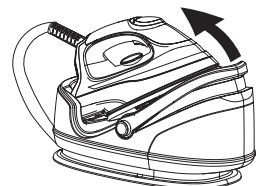

FIG. 10
Step 3 - Lift the handle up until you hear a "pa" sound, this indicates that the handle has been locked in place and you can now safely carry the appliance by the handle. (Fig 10)